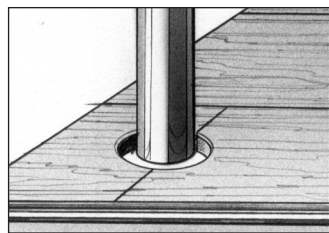

Fig. 39
2. Cut across the piece through the center of the hole (Fig. 39).